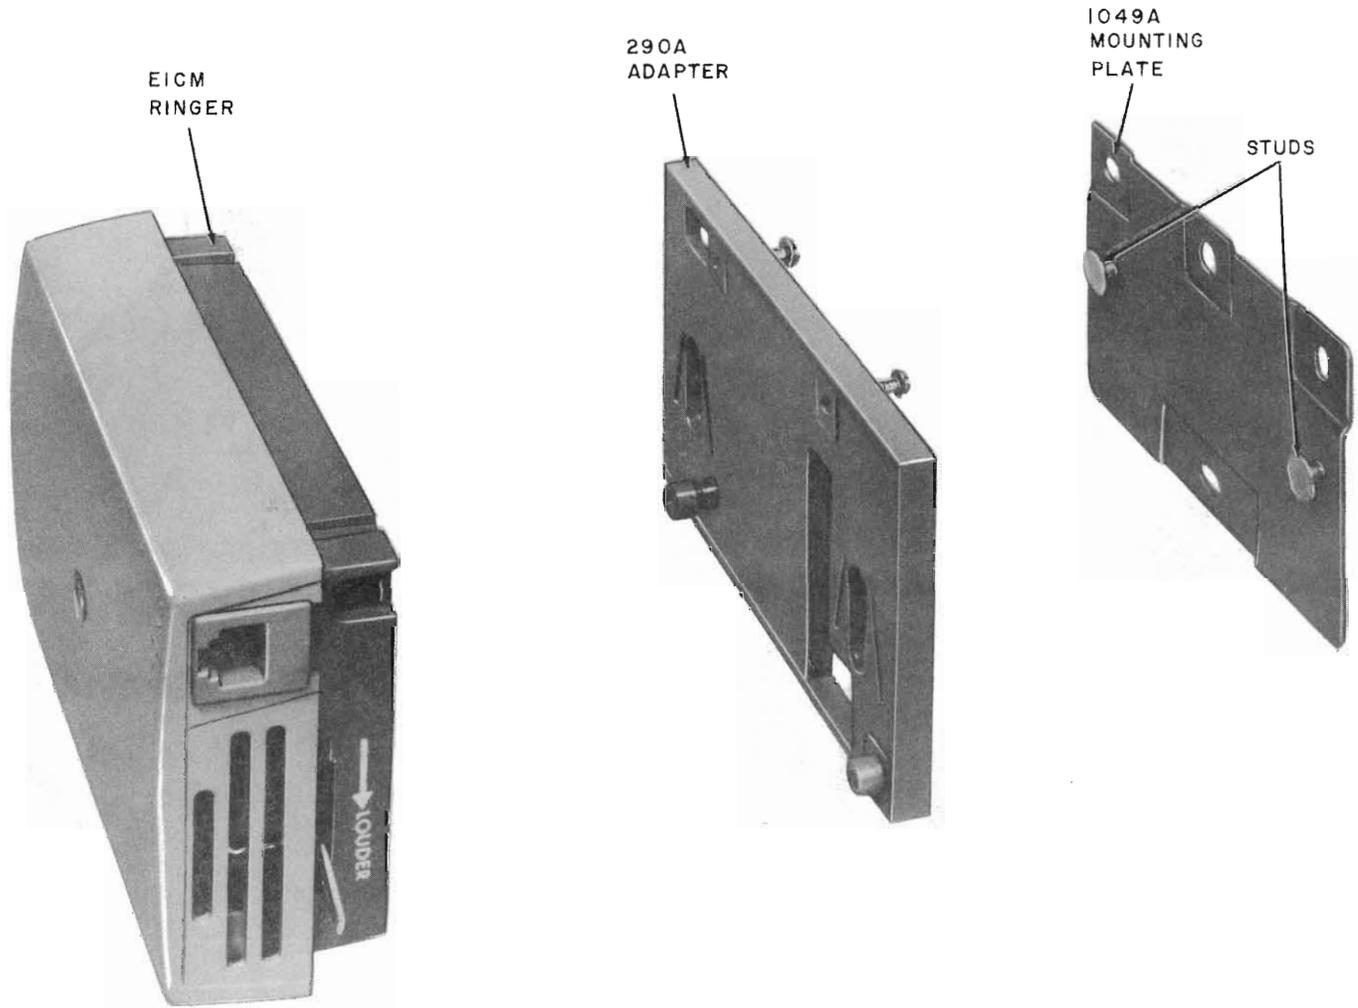

Fig. 11—E1CM (Modular) Ringer, 290A Adapter, and 1049A Mounting Plate
- 2.04 The 290A adapter (Fig. 11) is used in conjunction with the 1049A mounting plate to make the E1CM (modular) ringer portable.
3.05 Fig. 11 shows a 290A adapter and a 1049A mounting plate with an associated E1CM (modular) ringer. A 1049A mounting plate is required for each portable location.